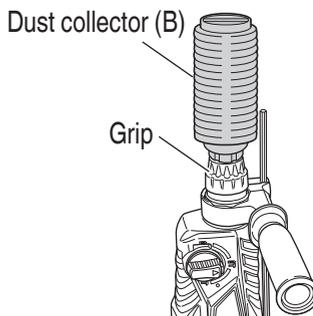

Fig. 4
5. Installation of dust cup or dust collector (B) (Optional accessories) (Fig. 3, Fig. 4)
- Installing dust collector (B)
When using dust collector (B), insert dust collector (B) from the tip of the bit by aligning it to the groove on the grip (Fig. 4).